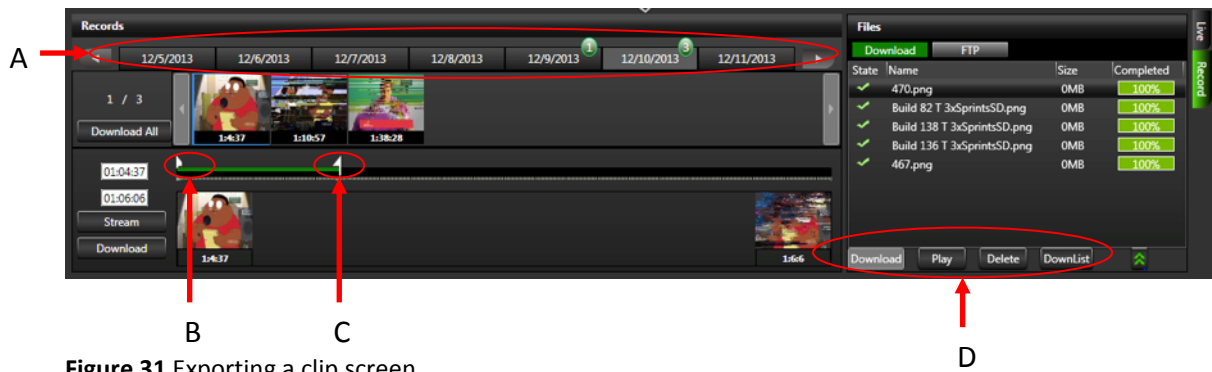

Figure 31 Exporting a clip screen
1. Navigate through stored data history by day or hour **(A)** (Figure 31).